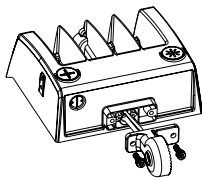

FIGURE 1.1
2. Match the hole of rubber mat with bracket, pass wire through and fix it with screws (Watch out not to scratch the wire) (FIG 1.1)